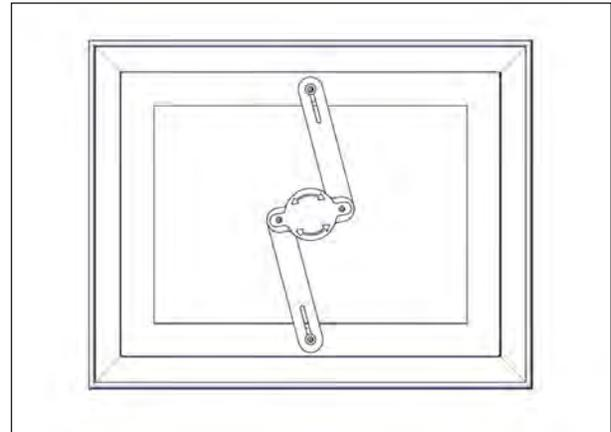

FIGURE 120: INSIDE HANDLE
1. Turn the red handle by a quarter turn in either direction to retract the arms, see Figure 120.